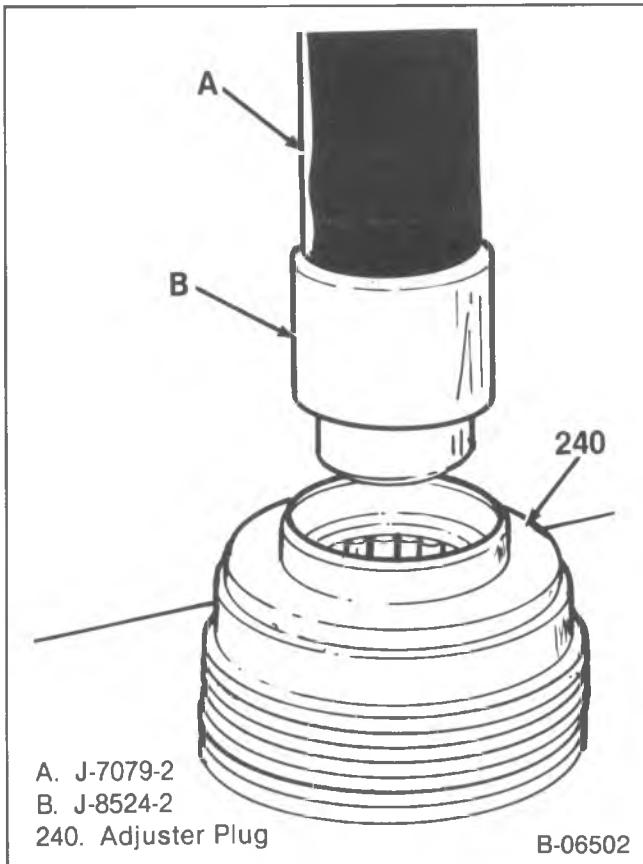

Figure 8—Removing the Needle Bearing
- Seal (239) and needle bearing (241). Use J-8524-1 and J-7079-2 (figure 8).